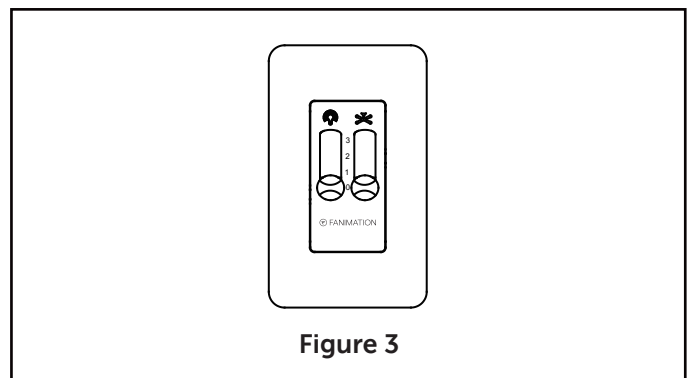

Figure 3
3. Operating Wall Control: (Figure 3)